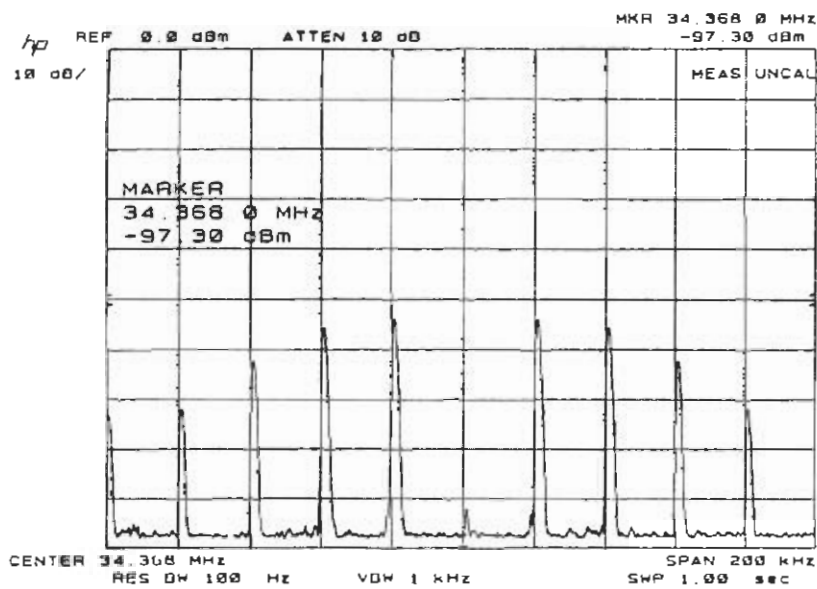

Figure 3-7 Bessel Null Example
- 10 Adjust the HP 37718A jitter amplitude until the first Bessel Null is observed on the Spectrum Analyzer i.e first dip in the carrier level (see Figure 3-7).